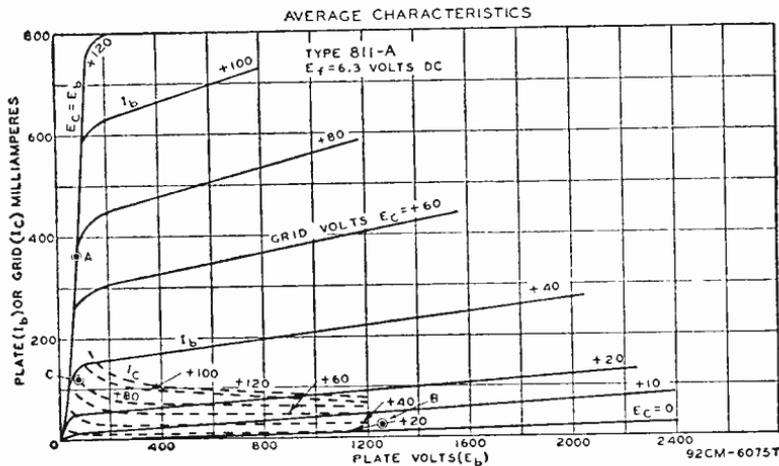

Fig. 48
Calculate operating values for the RCA-811A for linear rf power amplifier service under ICAS conditions. Refer to Fig. 48 for curve values.
- (1) Select  $E_b = 1250$  volts.
- (2) Calculate:  $I_{b_e} = 0.9 P_{lne}/E_b = 0.9 \times 165/1250 = 0.12$  ampere.
- (3) Calculate:  $I_{b_{max}} = 3 I_{b_e} = 3 \times 0.12 = 0.36$  ampere.
- (4) Calculate:  $I_b = I_{b_e}/1.4 = 0.12/1.4 = 0.09$  ampere.
- (5) On Fig. 48 locate  $I_{b_{max}} = 0.36$  ampere at Point A. Read  $E_{c_{max}} = 80$  volts,  $E_{b_{min}} = 80$  volts.
- (6) Calculate  $I_{b_0} = I_{b_e}/5 = 0.12/5 = 0.024$  ampere.
- (7)  $P_{lne} = E_b I_{b_e} = 1250 \times 0.120 = 150$  watts.
- (8) Calculate:  $PEP = (I_{b_{max}}/4)(E_b - E_{b_{min}}) = (0.36/4)(1250 - 80) = 0.09(1170) = 105$  watts.
- (9)  $P_p = 0.7 P_{lne} - 0.5 PEP = (0.7) 150 - (0.5) 105 = 52.5$  watts.
- (10) Record:  $E_g = E_{c_{max}} = 80$  volts.
- (11) On Fig. 48 locate  $I_{c_{max}} = 0.12$  ampere at Point C.
- (12) Calculate:  $I_{r_e} = I_{c_{max}}/3 = 0.12/3 = 0.04$  ampere.
- (13) Calculate:  $I_c = I_{r_e}/1.4 = 0.04/1.4 = 0.028$  ampere.
- (14) Calculate:  $P_d = E_g(I_{c_{max}}/4) = 80(0.12/4) = 2.4$  watts.